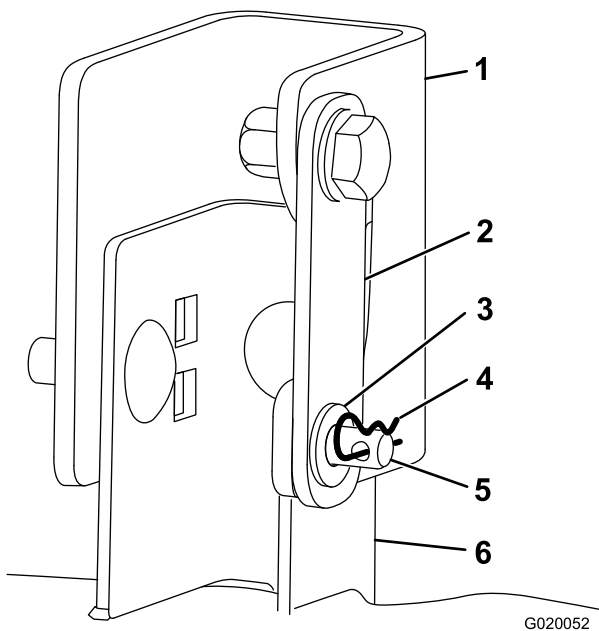

Figure 38
7. Remove the hairpin cotter and washer from the clevis pin in the hanger bracket and deck-support bracket on one side of the mower deck. Repeat for the other side (Figure 37 and Figure 38).
8. Swivel each deck-support bracket so that the hole in the loose end aligns with the hole in the hanger bracket (Figure 38).
9. Install the clevis pin through the brackets on each side; then install the washers on the clevis pins and hairpin cotters through the clevis pins (Figure 38).
8. Lift the rear of the deck slightly to take the pressure off of the clevis pins, and remove them (Figure 37 and Figure 38).